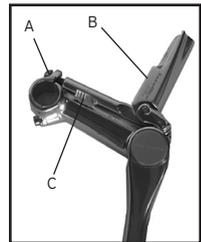

Figure 14- Bontrager adjustable-rise stem
1. Slide the locking button (Figure 14) forward and lift the quick-release lever.
2. Turn the tension adjusting screw (Figure 14).